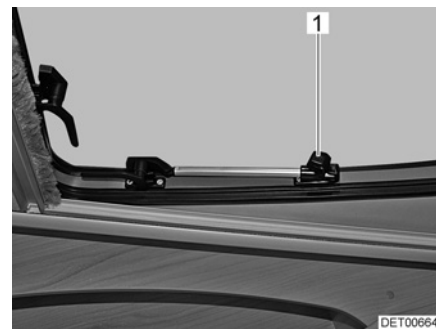

Fig. 30 Sunroof with rotary hinges, open
- Open the sunroof until the required position has been reached and use knurled knob (Fig. 30,1) to secure in position.
- Turn knurled knob (Fig. 30,1) until the latch is released.